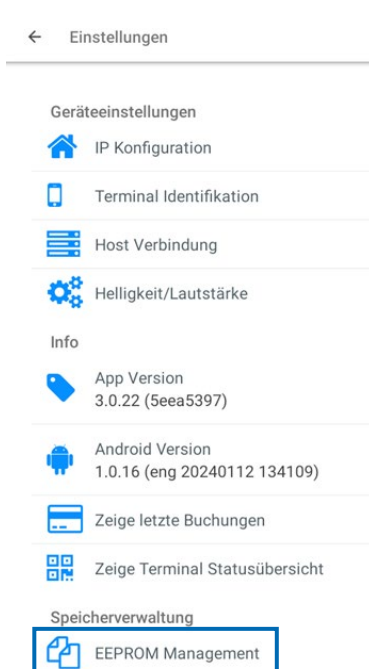

Fig. 11
2. Select “Überschreiben” to overwrite the settings of the wall module with the new settings defined in the main module (Fig. 11).
Optionally, you can use the “EEPROM Management” function (Fig. 11) to synchronize the settings on the main module and on the wall module. To do so, proceed as follows:
1. In the configuration menu, select the submenu “EEPROM Management” (Fig. 11).